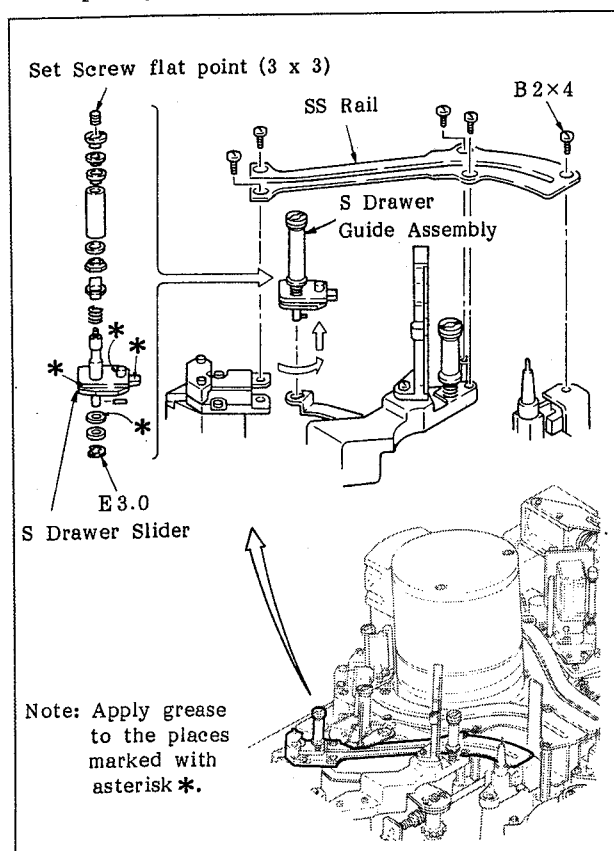

Fig. 6-49 Replacement of the S Drawer Slider
1. Rotate the threading motor manually to set the S drawer block in threading condition and remove the SS rail as shown in Figure 6-49.
2. Rotate the threading motor manually to back the S drawer block a little. Then, remove the S drawer block assembly by rotating it as shown in Figure 6-49.
3. Replace the S drawer block by referring to Figure 6-49.
4. Attach the components by performing steps 1 and 2 in reverse order and apply grease to the places shown in Figure 6-49.